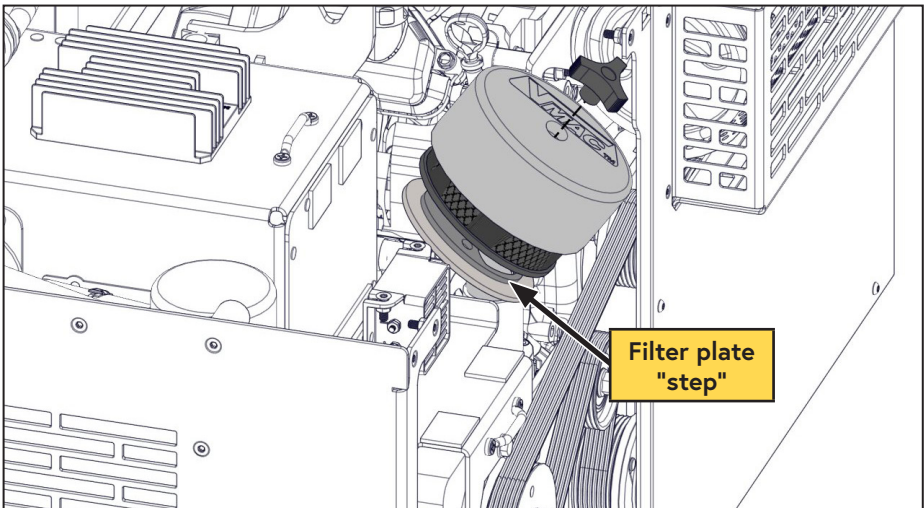

Figure 21 — Install air filter element
- Ensure the filter element fits securely onto the filter plate "step" (Figure 21).